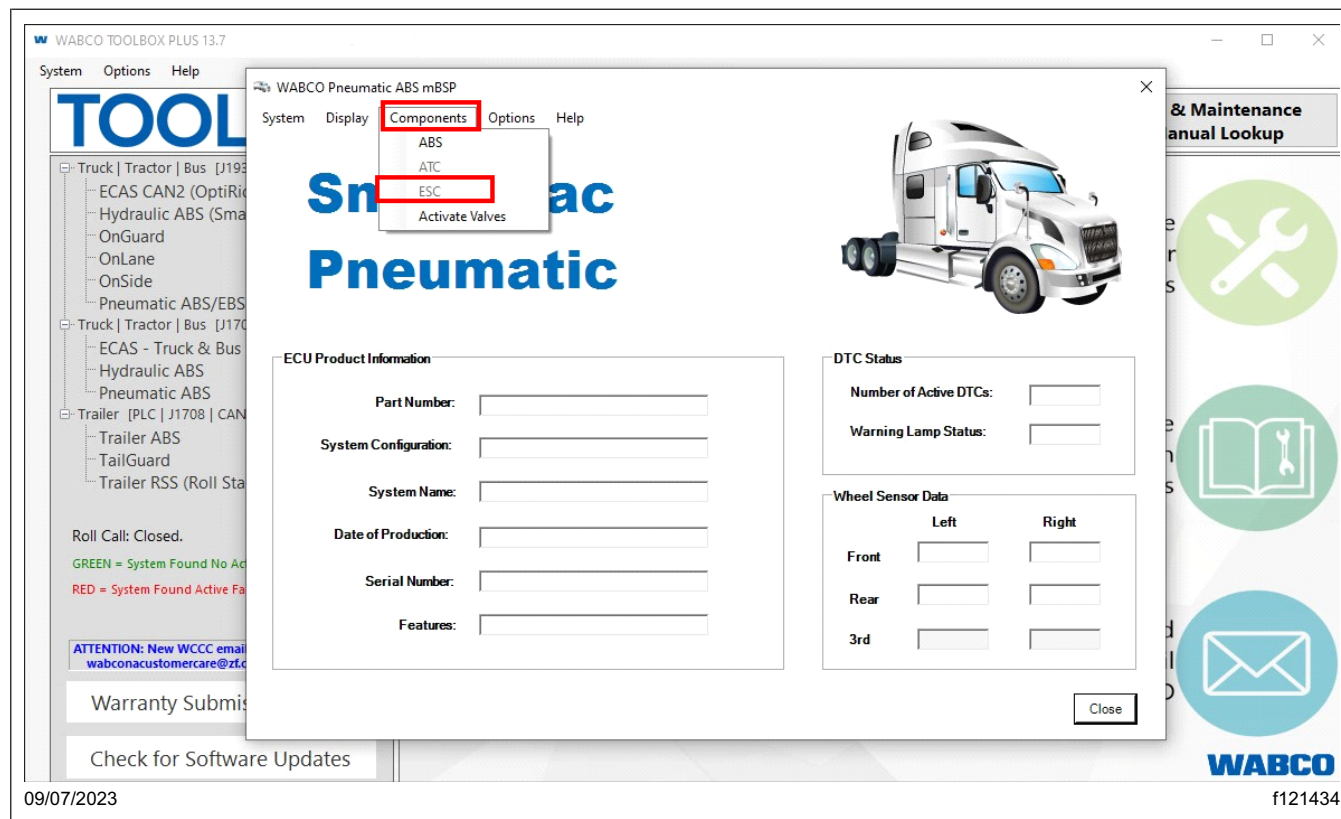

Fig. 18, Navigating to the ESC Window in Toolbox
- 20.1 From the WABCO Pneumatic ABS mBSP window, select the 'Components' drop-down menu, then select 'ESC.' See Fig. 18.